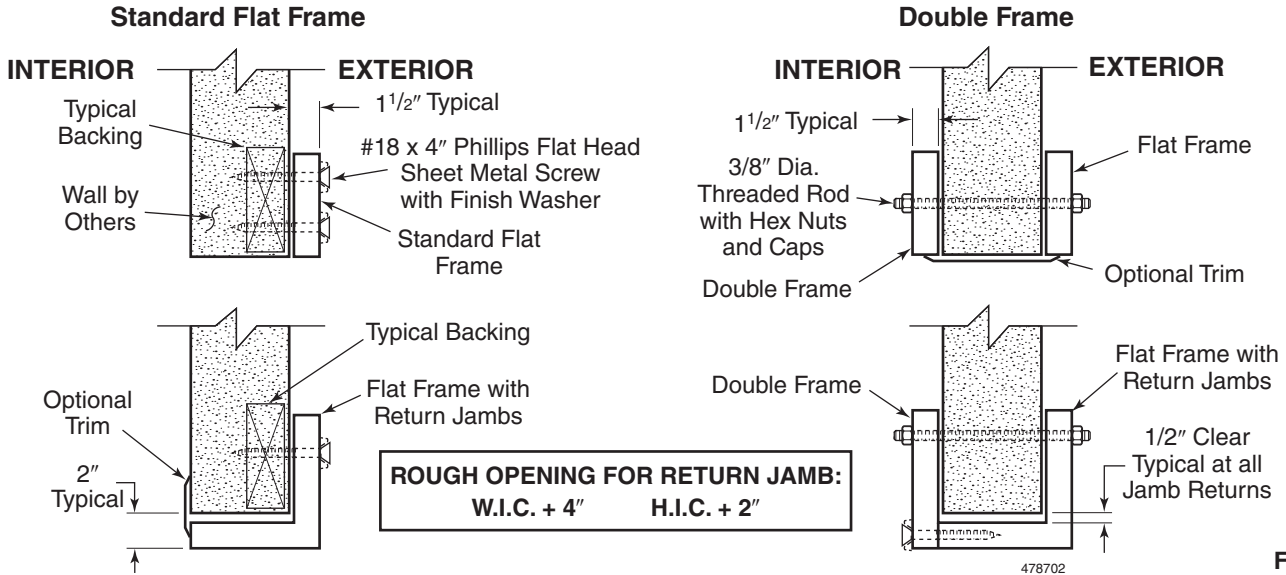

Figure 3
1. Before installing the door frame, check for proper backing in the wall. See *Figure 3*.